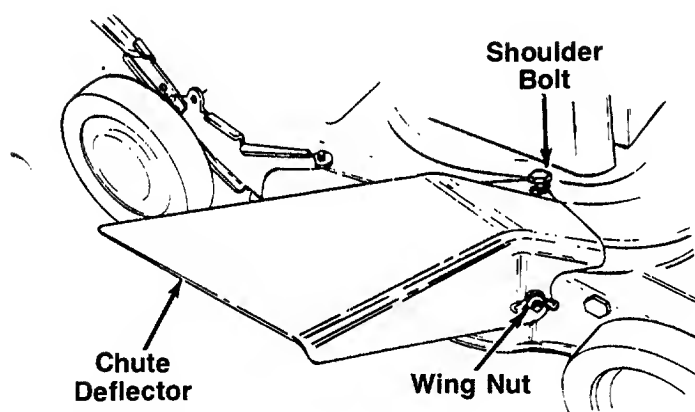
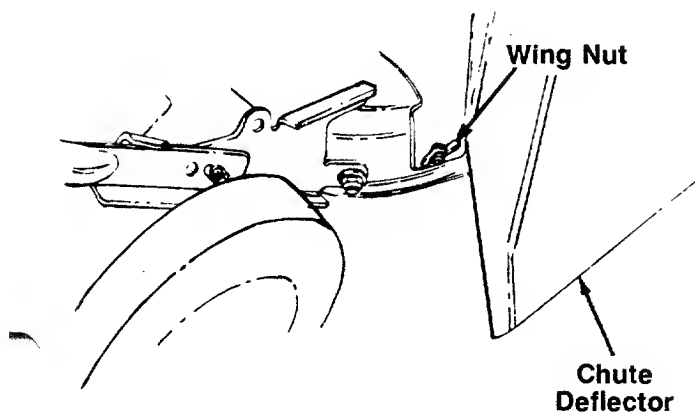

FIGURE 17.
FIGURE 18.
2. Attach the side chute deflector by first placing it over the rear bolt in the side of the deck. Then slide the notch in the top of the deflector around the shoulder bolt on top of the deck. Slide the notch in the side of the deflector around the front bolt in the side of the deck. See figure 17.
3. Secure the front of the chute deflector to the bolt on the side of the deck with one wing nut. See figure 17. Secure the back of the chute deflector in the same manner. See figure 18.